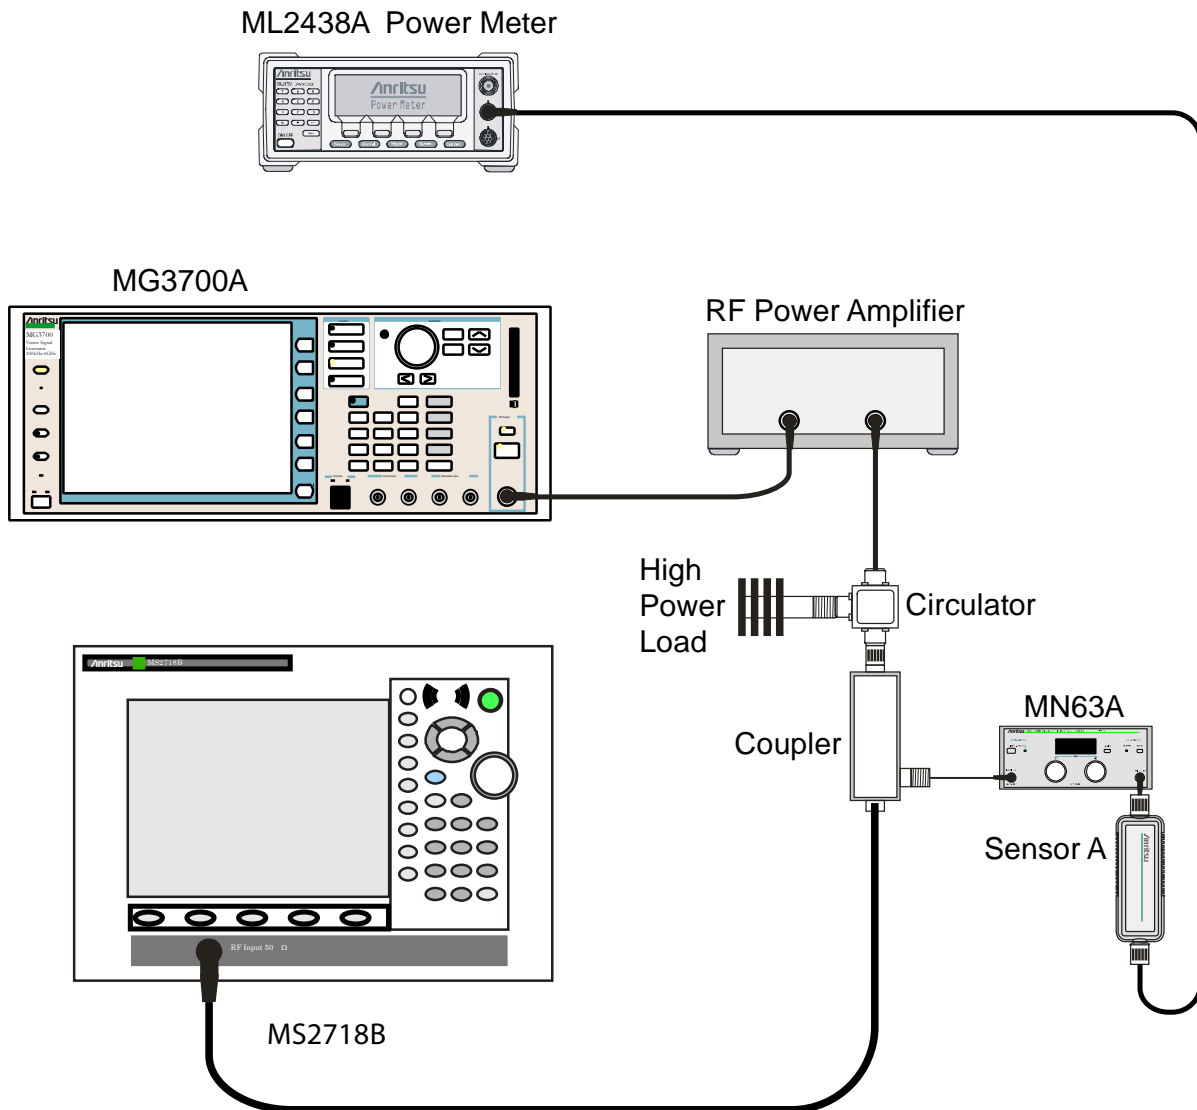

Figure 3-4. WCDMA Absolute Power Accuracy Verification — Measurement Setup
33. Disconnect the coupler from Sensor B and connect the coupler to the MS2718B, MS2719B, referring to Figure 3-4.